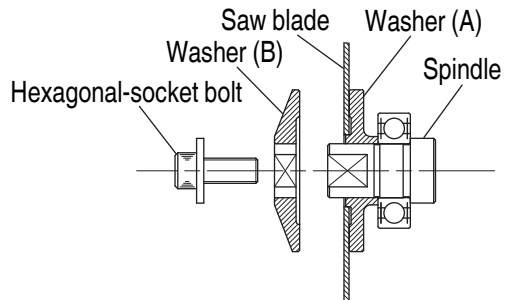

Fig. 9
- (1) Thoroughly remove any sawdust which has accumulated on the spindle, bolt and washers.
- (2) As shown in **Fig. 9**, the side of Washer (A) with a projected center the same diameter as the inner diameter of the saw blade and the concave side of Washer (B) must be fitted to the saw blade sides.